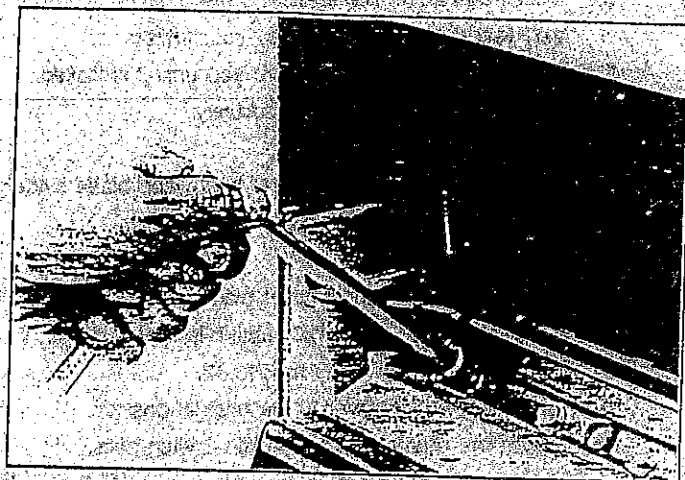

Figure 6
4. Loosen the six hex head bolts attaching the blade and blade binder (Figure 6). Use the wrench supplied or a 10mm socket wrench.